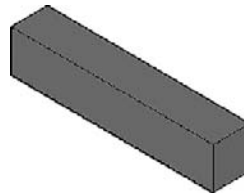

FIGURE 24.10
Step 2. Select both pieces and press Enter. The result is shown in Figure 24.10; only the intersecting part remains.